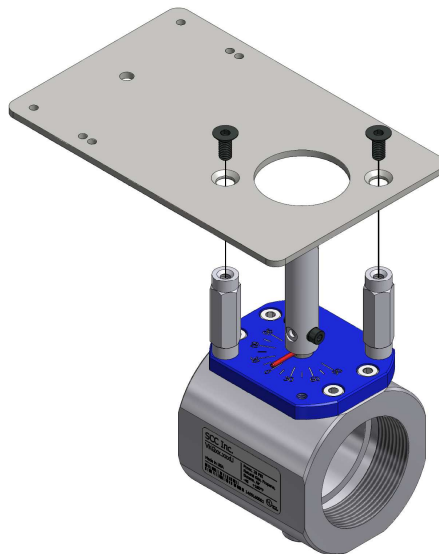

Figure 4: Mounting Bracket Installation
3. Place a small amount of blue Loctite on the end of each of the (2) M6 x 14mm flat socket head screws. Using a 4mm hex key, fasten the mounting bracket to the top of the standoffs as shown in Figure 4 below.